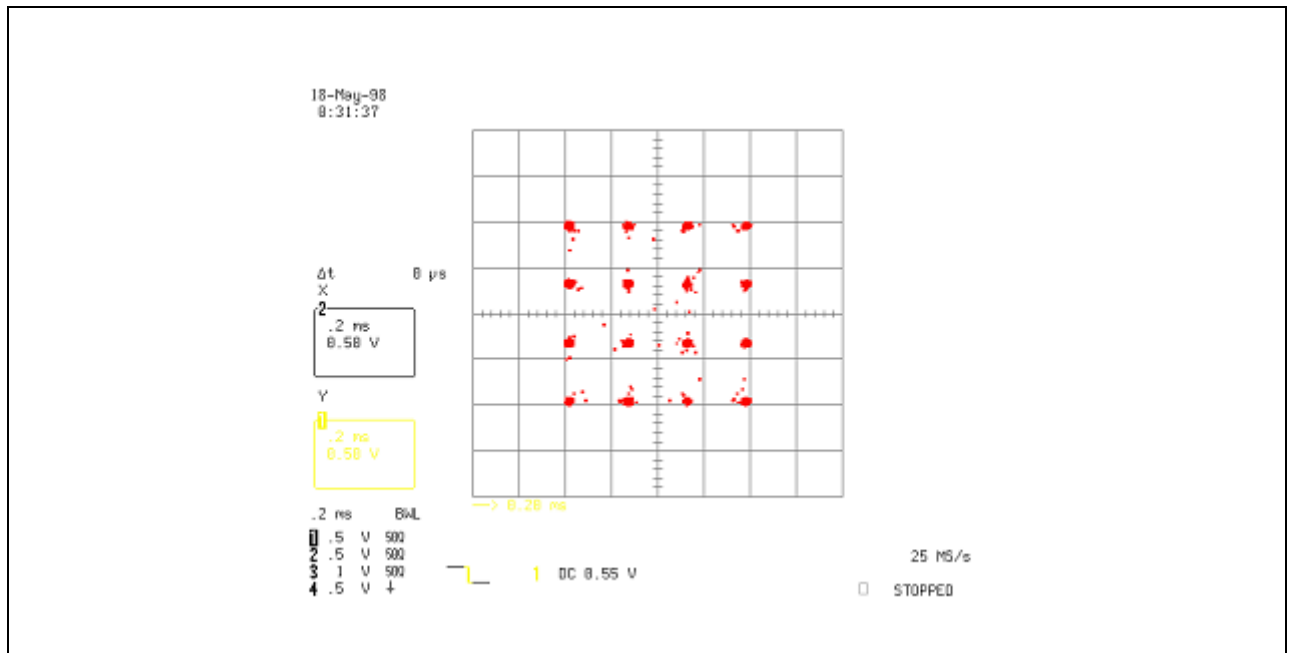
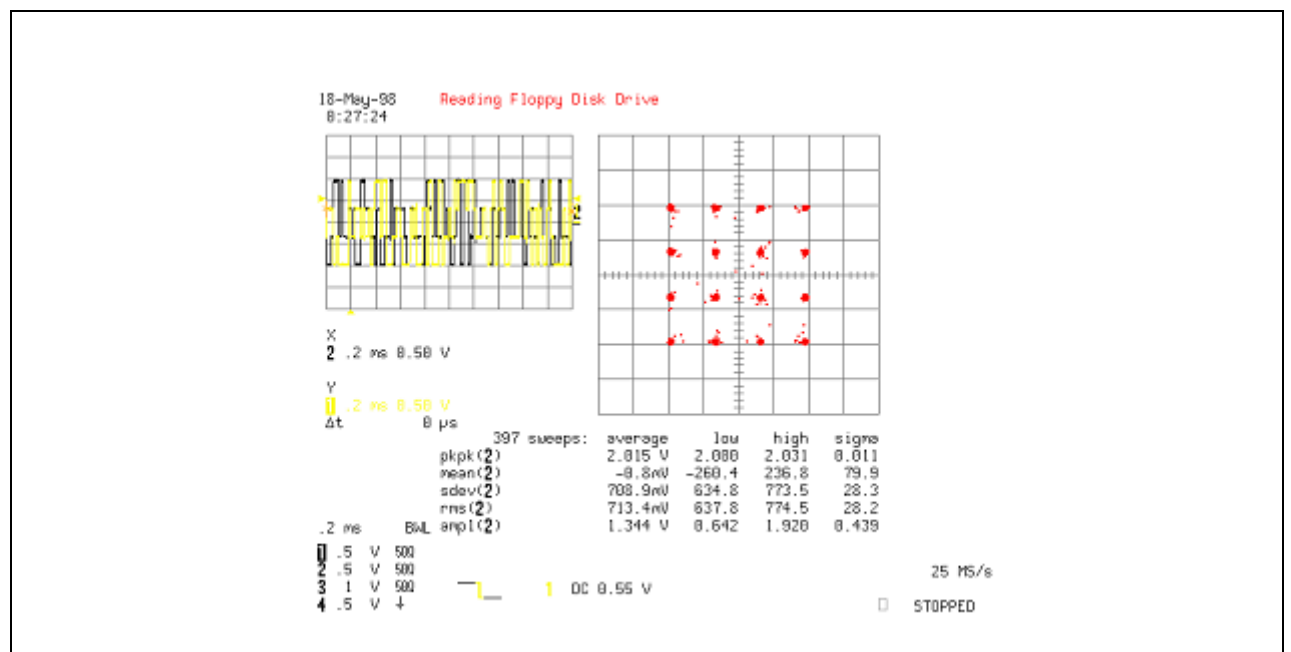

Figure 118: Oscilloscope DAC Output from QAM Demo Design (XY Display)
Figure 119: Oscilloscope DAC Output from QAM Demo Design (Dual Display)
11. View the output on the oscilloscope. Connect two of the MCX-BNC cables from the DAC outputs on the board to channels on the oscilloscope. Set the display mode of the scope to X-Y if it supports it. You will see either two streams of data (Figure 119 on page 199) or the constellation if using X-Y (Figure 118 on page 199). Some modification of time and voltage scales may be necessary dependent upon the scope used. Remember to set the input coupling for the channels to 50Ω on the oscilloscope.